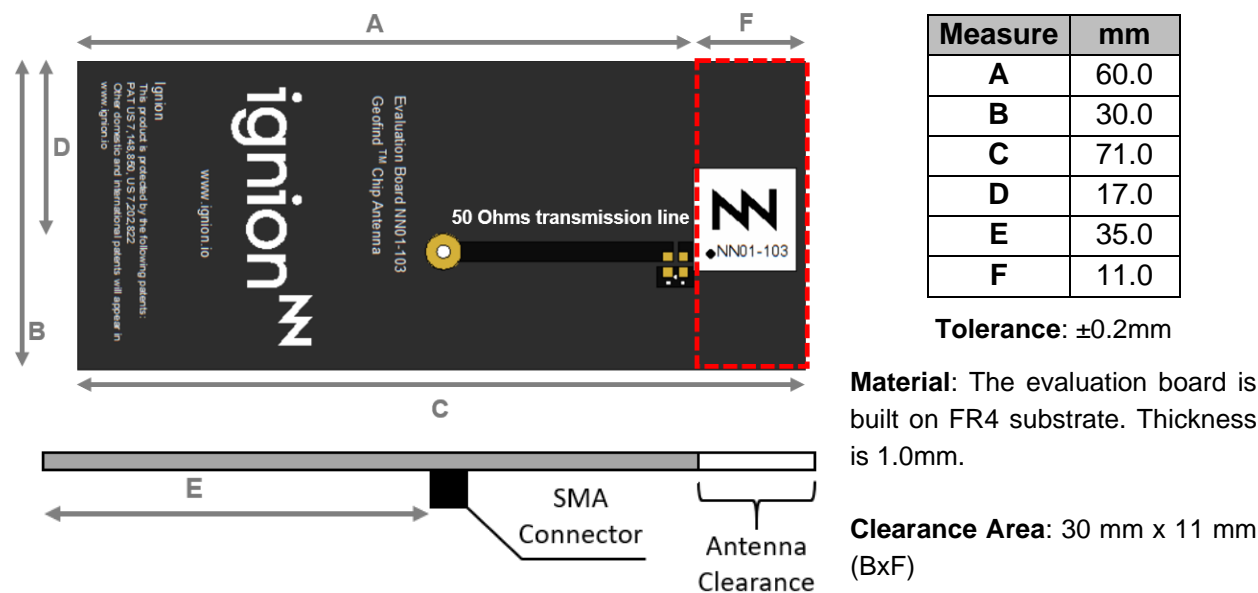

Figure 1 – EB_NN01-103. Geofind™ Evaluation Board.
Table 1 – Technical Features. Measures from the evaluation board. See Figure 1 and picture in page 8.
The Ignion configuration used in testing the Geofind™ Embedded Antenna is displayed in Figure 1.
Table 2 – Antenna Gain and Total Efficiency from the evaluation board (Figure 1) for BeiDou (1561 MHz), GPS (1575 MHz) and GLONASS (1598-1606 MHz) bands. Measures made in the Satimo STARGATE 32 anechoic chamber.
Feed Pad (1): the black circle on the top of the antenna indicates the position of the feed pad in the bottom. Align the feed point with the feeding line on the PCB. See Figure 1.